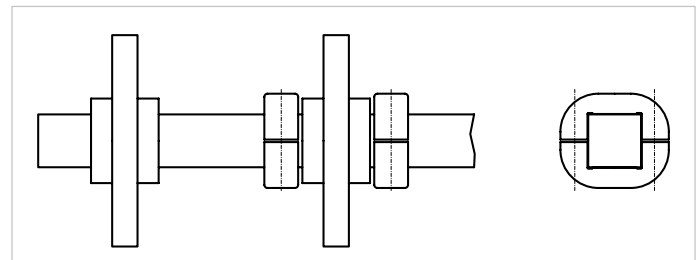

Figure 340: Type: retainer rings
- Retainer rings for square and round shafts (Figs. 340 and 350).